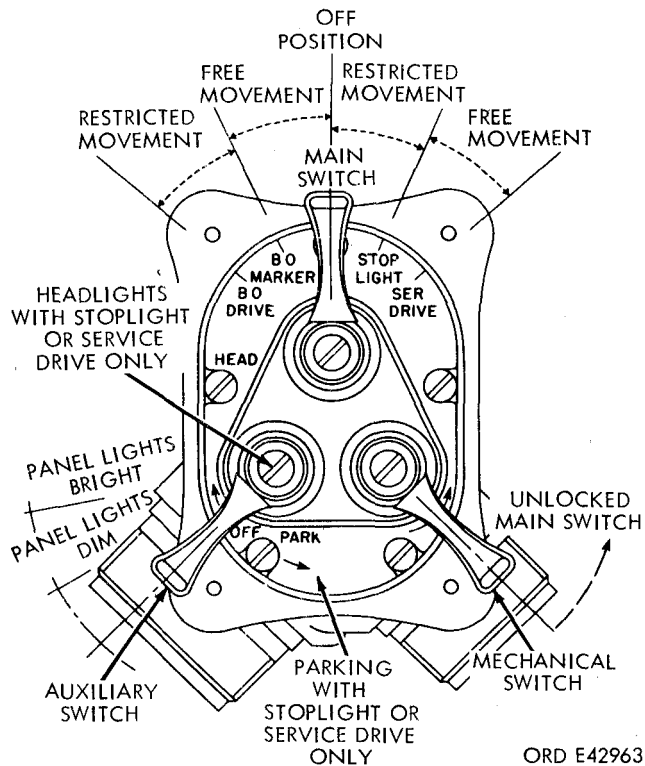

Figure 2-40. Light switch positions.
- (1) Place the headlight switch (fig. 2-40) in the desired position for the lights to be checked.